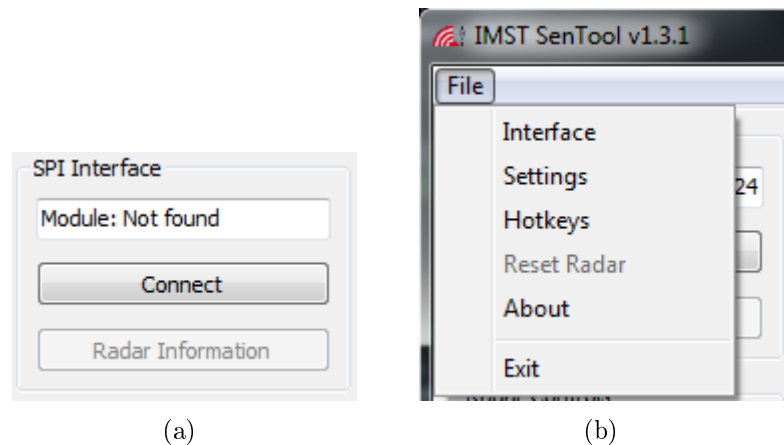

Figure 3.2: (a) Interface field in Controls, (b) Interface entry in the File menu
- The default parameters (see table 2.7) should be configured in the IMST SenTool. To be sure, the values can be entered in the *Ethernet Configuration* and the configuration can be saved by pressing *OK*. If the default parameters are shown in the interface field (see figure 3.2 (a)), they are configured.
In the upper left corner of the IMST SenTool the *File menu* is located as already shown in figure 3.2 b. The following options are available in the *File* menu.